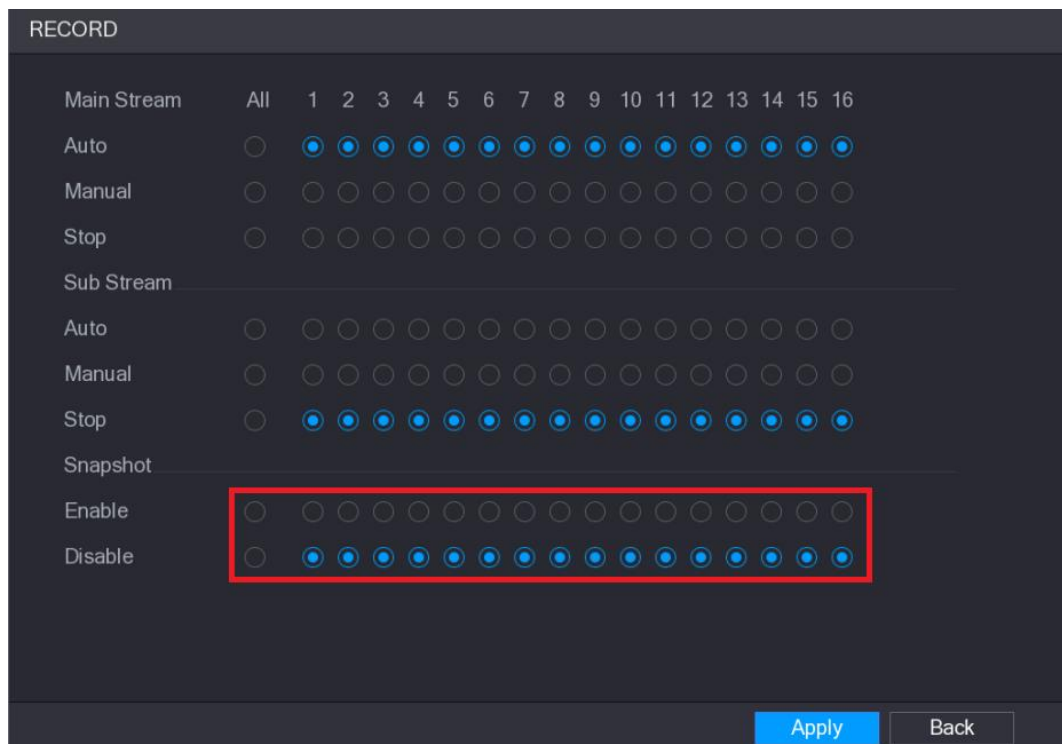

Figure 5-88
Step 3 In the **Snapshot** area, enable the snapshot for the channels if needed. See Figure 5-88.